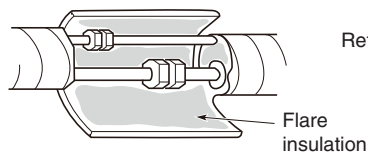
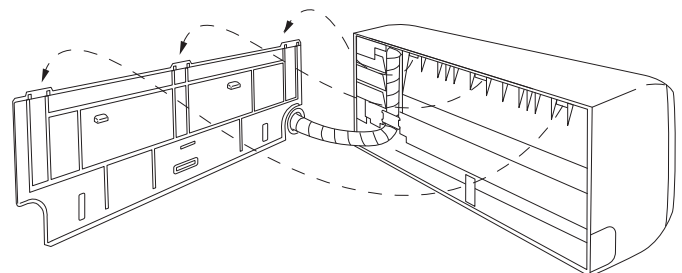

Fig. 3-26
Fig. 3-25
- (2) Push the wiring, refrigerant tubing, and drain hose through the hole in the wall. Adjust the indoor unit so it is securely seated on the rear panel. (Fig. 3-25)
- (3) Carefully bend the tubing (if necessary) to run along the wall in the direction of the outdoor unit and then tape as far as the fittings. The drain hose should come straight down the wall to a point where water runoff won't stain the wall.
- (4) Connect the refrigerant tubing to the outdoor unit. (After performing a leak test on the connecting part, insulate it with the tubing insulation. (Fig. 3-26)).